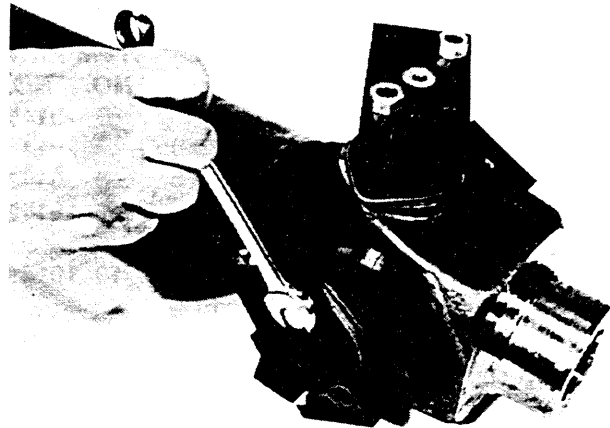

FIGURE 3
Secure side plates (3) to yoke adjacent to the yoke to which the bridge plate is attached. Use correct sized cap screws (9, 10 or 11) provided with the set. (See Figure 3)